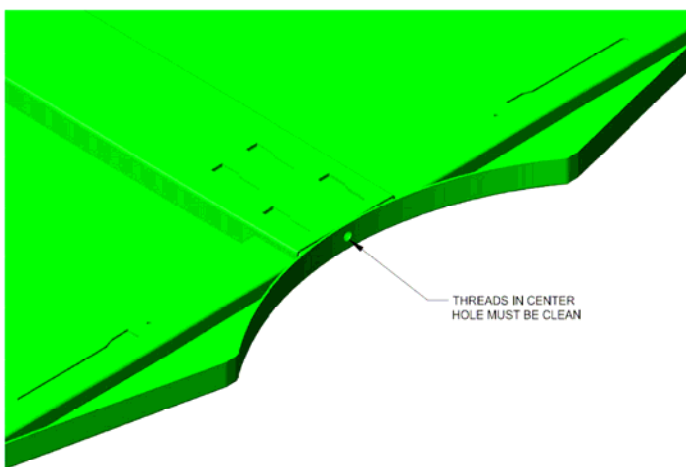

Figure 1
- 1) Remove goal and hardware from box and inspect for shipping damage. Also inspect the threaded hole in the center of the lower end of the backboard (See Figure 1). A 7/16" bolt must easily screw into this threaded hole. This bolt is required for proper installation. If necessary, clean the threads with a 7/16-14 tap (Not Included).